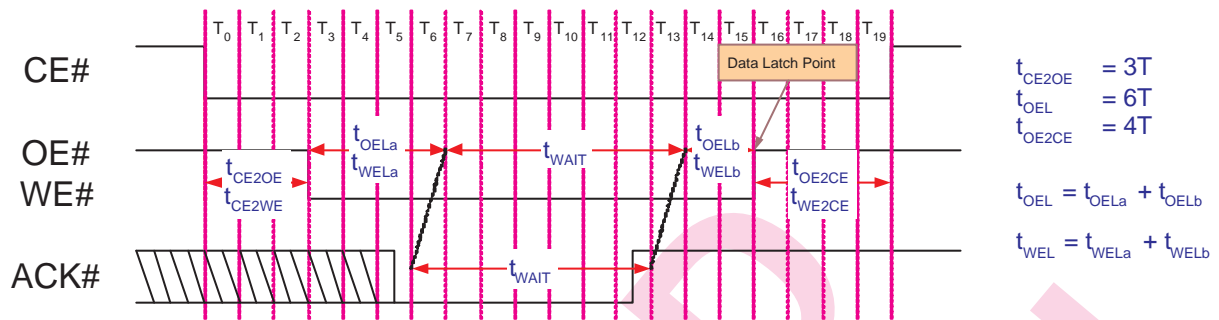

Figure 59: NOR Flash ACK Control Timing
- Figure 59: NOR type flash read/write cycle extended by external ACK